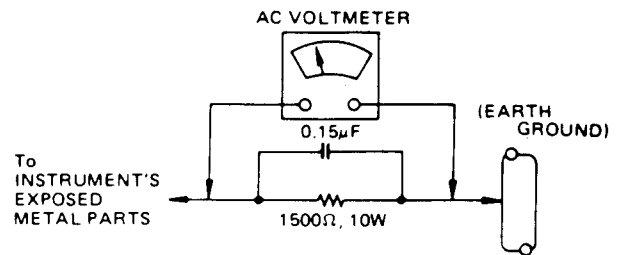

Figure 1
- 5-2 Connect a 1500 ohm, 10 watt resistor, paralleled by a 0.15 μ F capacitor between each exposed metallic part and a good earth ground (as shown in Figure 1).